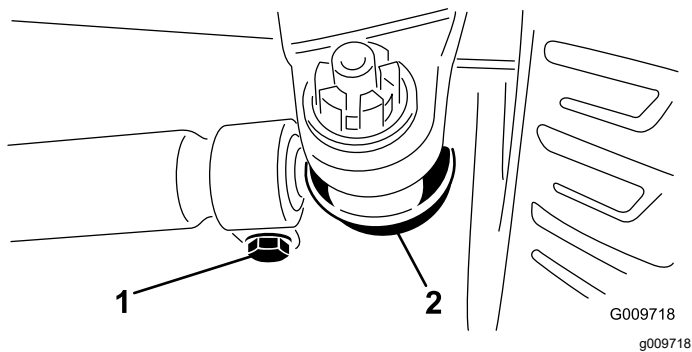

Figure 69
2. To adjust, remove the cotter pin and nut from either tie rod ball joint (Figure 69). Remove tie rod ball joint from axle case support.
3. Loosen the clamps at both ends of the tie rods (Figure 69).
4. Rotate the detached ball joint inward or outward one (1) complete revolution. Tighten clamp at loose end of tie rod.
5. Rotate the entire tie rod assembly the same direction (inward or outward) one (1) complete revolution. Tighten clamp at connected end of tie rod.